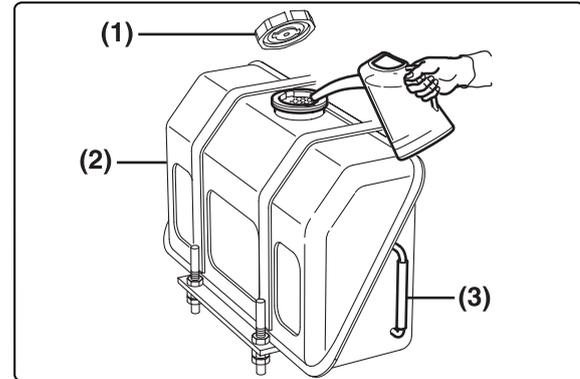

Figure 1
1. Clean the area around the fuel cap (Figure 1, (1)).
2. Remove the fuel cap (Figure 1, (1)) from the fuel tank (Figure 1, (2)).
3. Observe the fuel level sight gauge (optional) (Figure 1, (3)) and stop fueling when gauge shows fuel tank is full. NEVER overfill the fuel tank.
4. Replace the fuel cap (Figure 1, (1)) and hand tighten. Over-tightening the fuel cap will damage it.